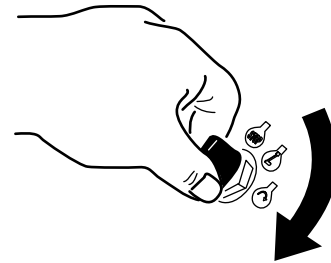

Figure 11
2. Turn the ignition key to the START position (Figure 11).